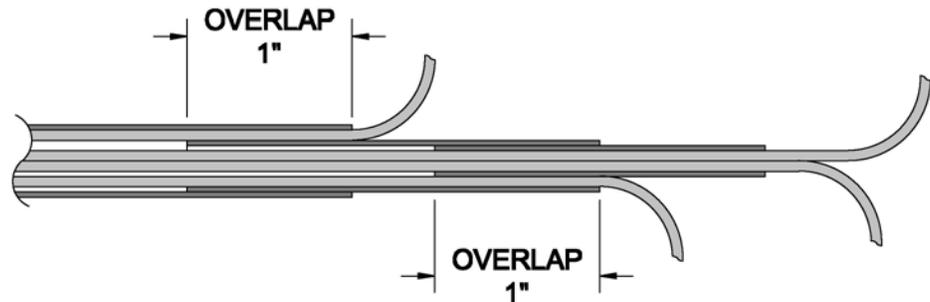

Figure 15 – Proper Heat Shrink Overlap
2. Starting from the rear harness connector at the EHC, cut a piece of heat shrink tubing long enough so that it extends about 1" past the first branch in the harness. This extra length will allow the tubing for the branches to slide into the main tubing as shown in Figure 15. This crates a smooth transition to the branches.